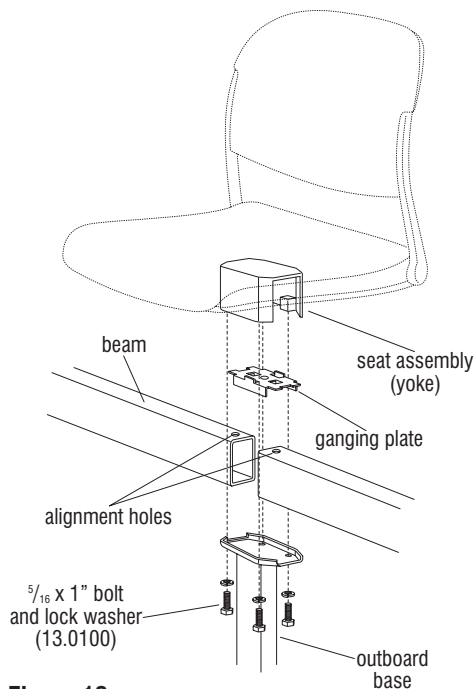

Figure 13
32. To join beams under Doni, Grazie, LimeLite, Wave, Strive, Strive Nesting, Piretti Torsion, and Piretti 2000 Task, the beams to be joined rest on the yoke plate of an outboard base with the beam holes facing up. Place the ganging plate onto the beams and engage the tabs of the ganging plate into the alignment holes in the beams. From under the yoke plate of the outboard base, attach the plate to the yoke of the seat spider with four $\frac{5}{16}$ x 1" hex head bolts and lock washers. Torque bolts to 21 ft/lbs to secure (Figure 13).